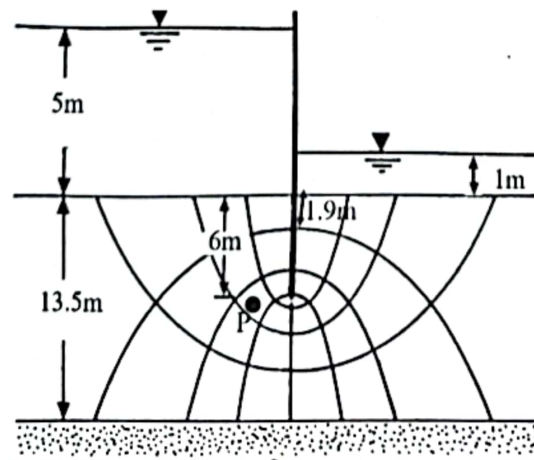

Fig. 3
5. a) Briefly describe soil compaction and factors affecting compaction. (10) 4
- b) A sheet pile penetrates 6 m into a permeable soil stratum with coefficient of permeability of  $1 \times 10^{-8}$  m/s. The permeable stratum extends up to 13.5 m from the ground level and is underlain by an impermeable stratum as shown in Fig. 3. (20) 3